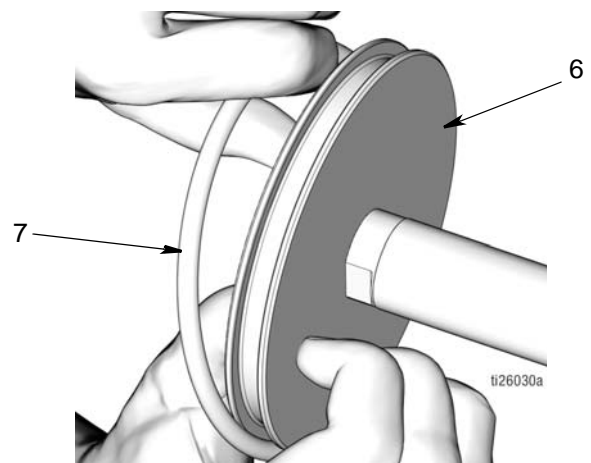

FIG. 49
- Apply a thin layer of grease to o-ring (7). Install o-ring (7) around piston (6) as shown in FIG. 49.